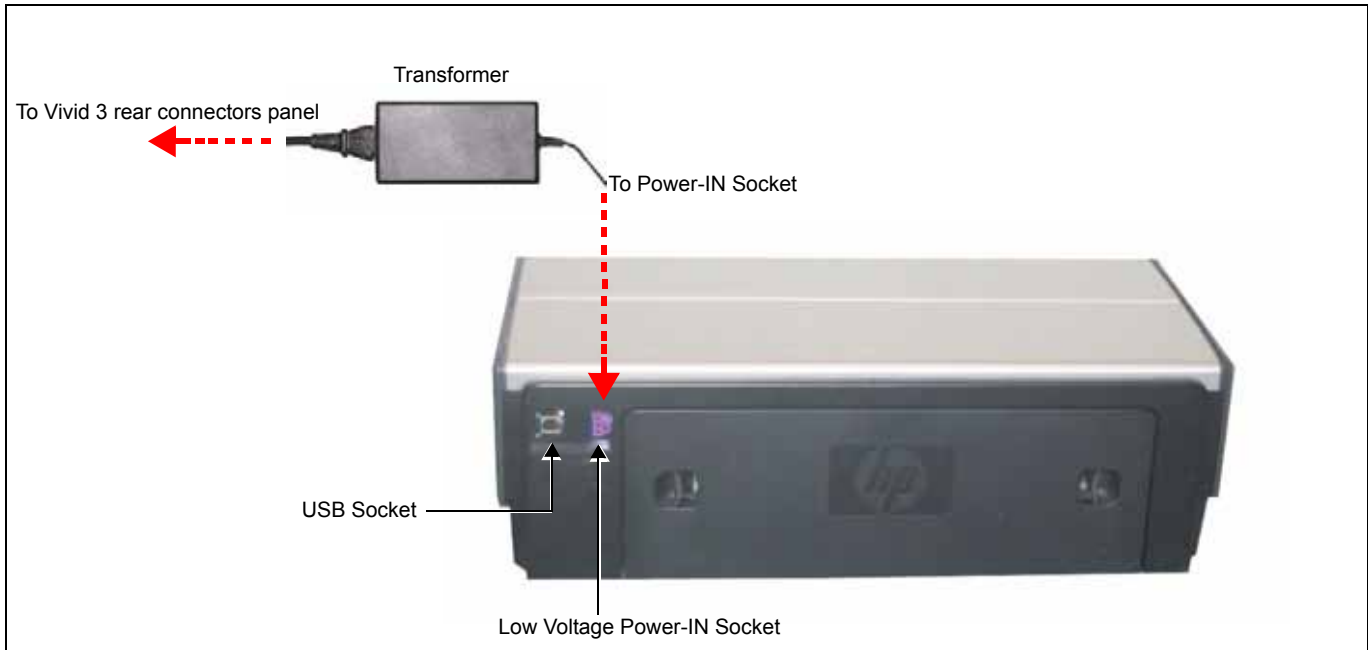

Figure 8-178 HP 6540/3 Deskjet Color Printer- Rear View
- 2.) Connect one end of the Printer power cable to the Vivid 3 rear connectors panel and the other end (via the transformer [supplied]) to the Low Voltage Power-IN socket on the rear of the printer, as shown in Figure 8-178 below.
- 3.) Use the USB cable (shipped with the printer) to connect the Vivid 3 system to the USB socket on the HP6540/3 rear panel (see Figure 8-178).